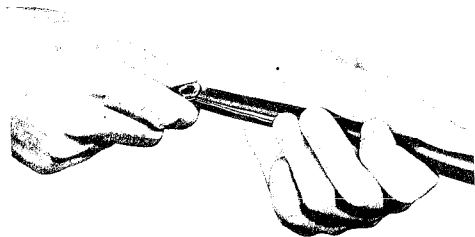

Fig. 4 — Using Cable Stripper
- (1) Support cable between stripper and last attachment.
- (2) Angle tool to cable and insert point just under outer covering.
- (3) Pull stripper toward free end of cable (Fig. 4).